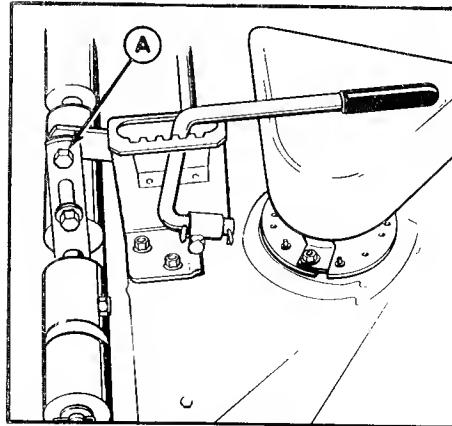

**Figure 40. Mower Hitch
6. Loosen the capscrew (A, figure 40) and flange nut (B) in the right mower hitch.
8. Retighten the capscrew and flange nut (B, figure 40). Torque capscrew (A) to 50 ft. lbs. Torque nut (B) to 65 ft. lbs.